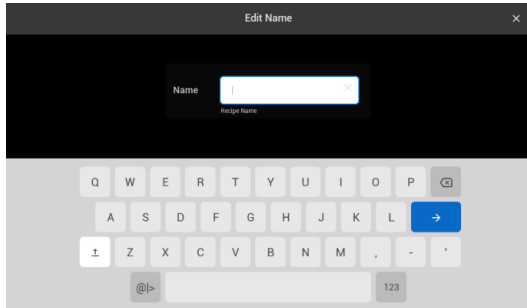

Figure 48 - Edit Name Keypad
- Select **Name** and the screen will transition to **Figure 48**